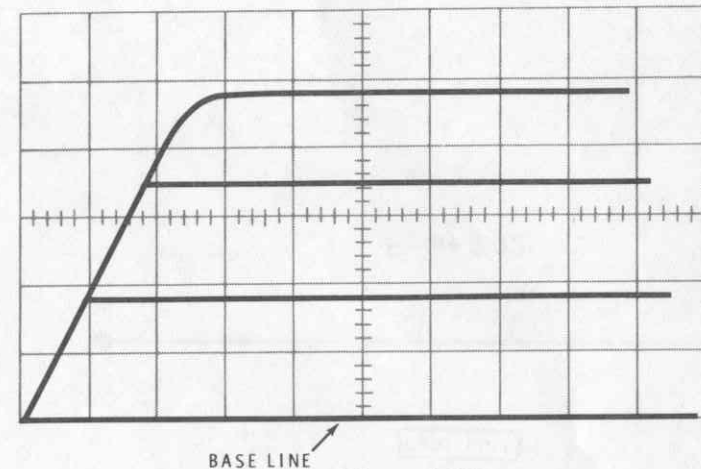

Figure 1-13
- ( ) Slowly turn the STEPS/FAMILY control counterclockwise. Note that one by one, from the top down, the steps disappear until only the base line is left. Now adjust the control until three steps plus the base line appear. See Figure 1-13.